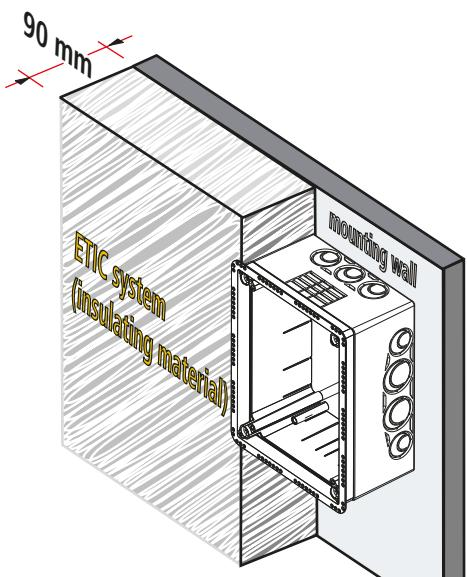

Fig. 1a
The test joint box (also in combination with a spacer (Part No. 476 053 or a set (Part No. 476 055) ensures mounting heights (flush with the insulating material) of 90 to 320 mm (see Fig. 1a, 1b, 1c).
- Wall mounting of the test joint box (see Fig. 1a and 1b)